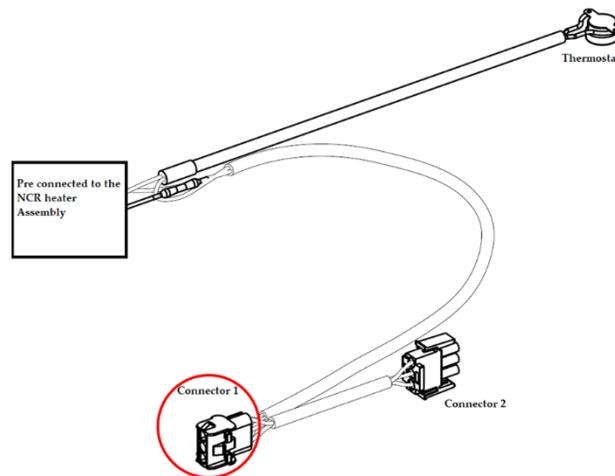
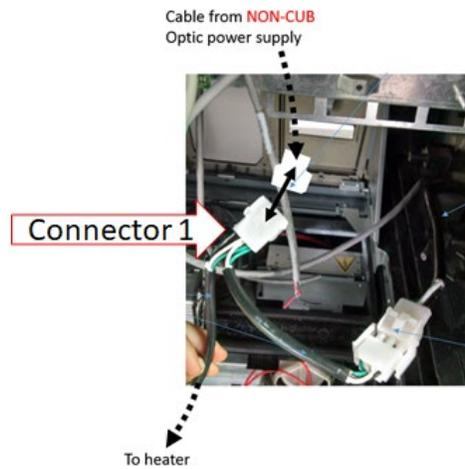

Figure 16
Figure 17
13) Attach Connector 1 (identified in Figure 16) to the NON-Invenco Link OPTIC power supply cable as shown in Figure 17.